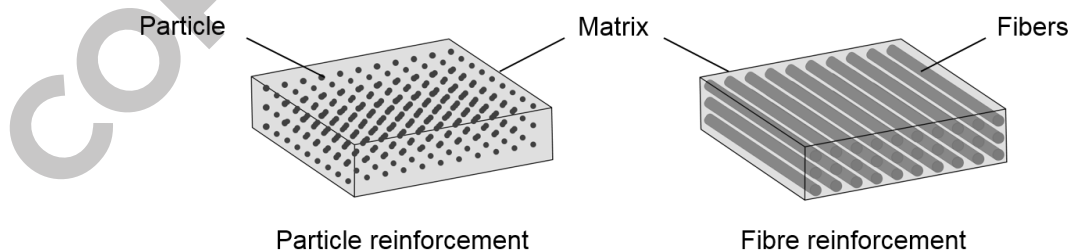

Figure 4.50: Composite materials with different reinforcements.
- The reinforcement is the material that is embedded in the matrix. The reinforcement material (particles or fibres) is distributed throughout the matrix material (Figure 4.50).